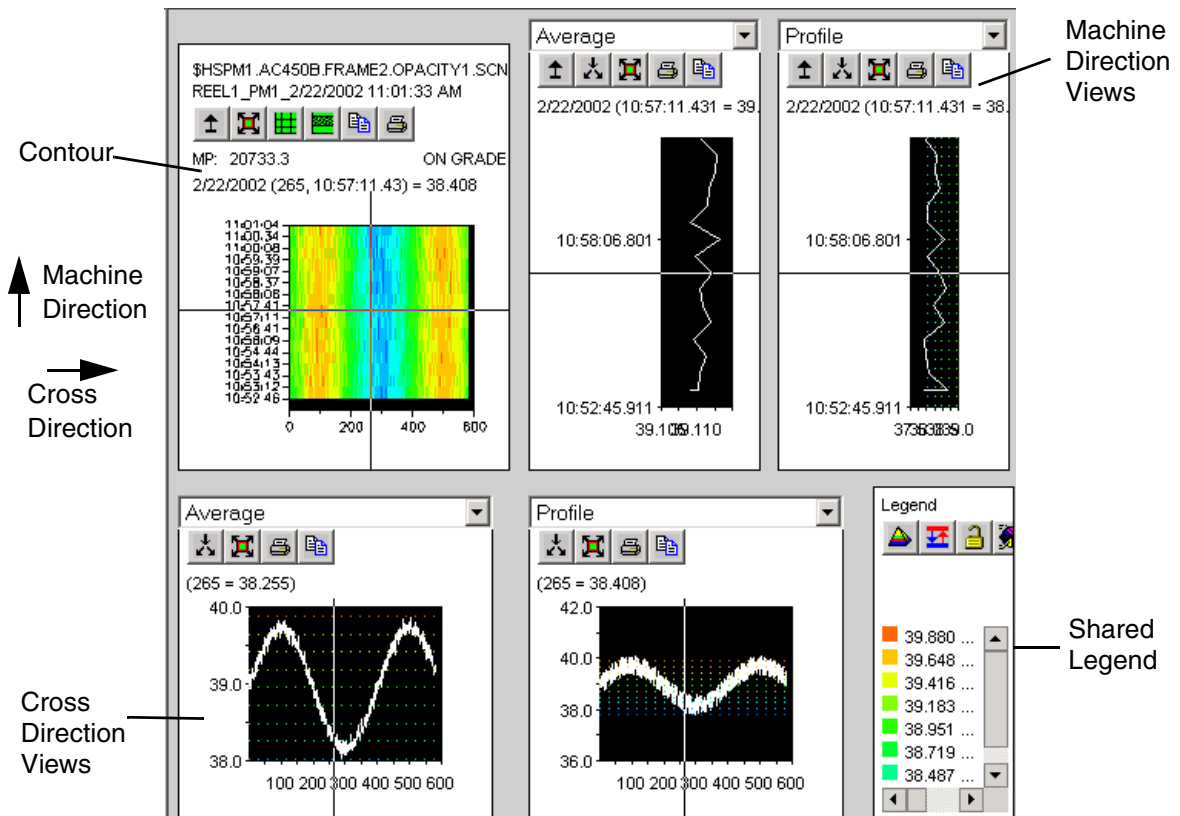

Figure 36. ContourMDCD View
The ContourMDCD view combines a **Contour Map** with two **Machine Direction (MD)** views, and two **Cross Direction (CD)** views, **Figure 36**. The same measurement is applied to all views. This lets you show MD and CD views for both the profile and average. These five views share a common **legend** which describes the contour level settings, and provides a tool bar for making contour level adjustments.